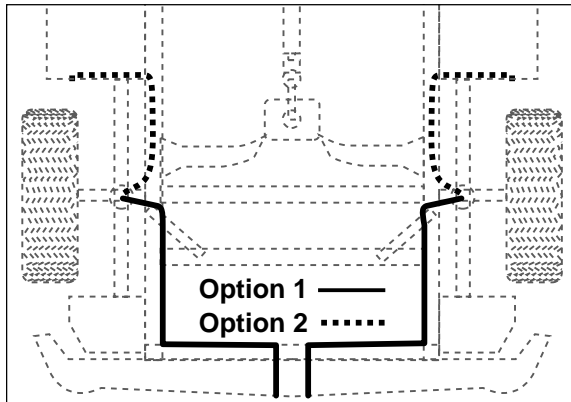

Figure 9
NOTE: What ever the chosen location is, make sure there is enough clearance around the inflation valves for an air chuck (Figure 9).
6. Route the air line along the frame to the air fitting on the air spring (Figure 9). Keep at least 6" of clearance between the air line and heat sources, such as the exhaust pipes, muffler, or catalytic converter. Avoid sharp bends and edges. Use the plastic tie straps (BB) to secure the air line to fixed, non-moving points along the chassis. Be sure that the tie straps are tight, but do not pinch the air line. Leave at least 2" of slack to allow for any movement that might pull on the air line.
7. On the Passenger side only, place the provided thermal sleeve (T) on the air line near the exhaust.